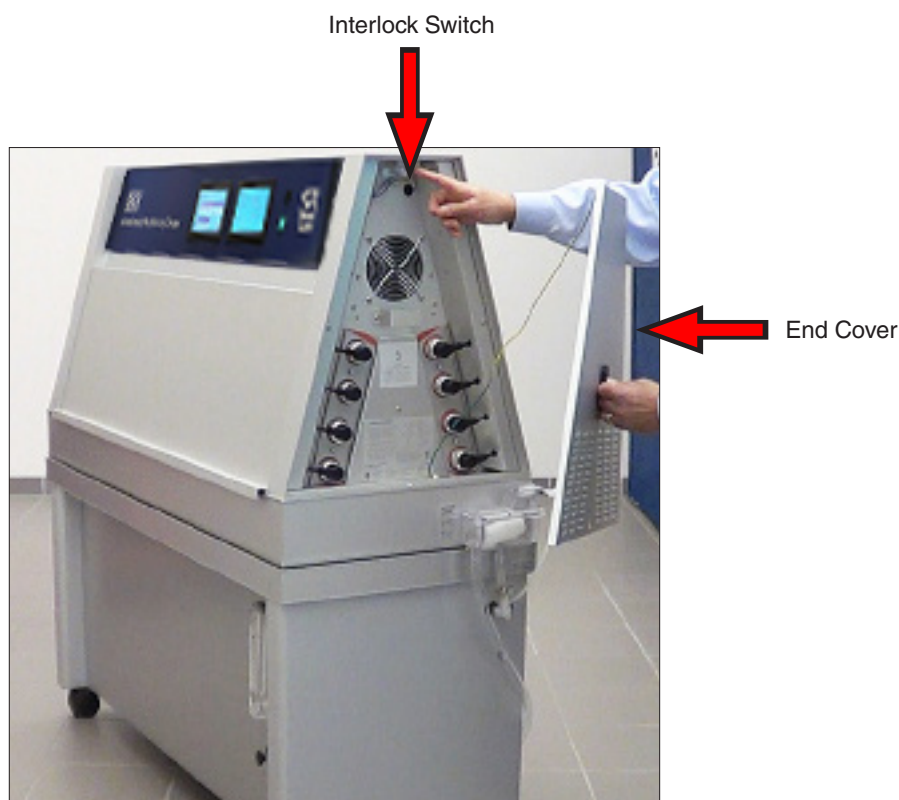

Figure 2.1: Power off to lamps when end covers removed.
- The QUV uses 400 volts to operate its fluorescent ultraviolet (UV) lamps.
- Interlock switches remove power to the UV lamps when end covers are removed (Figure 2.1).